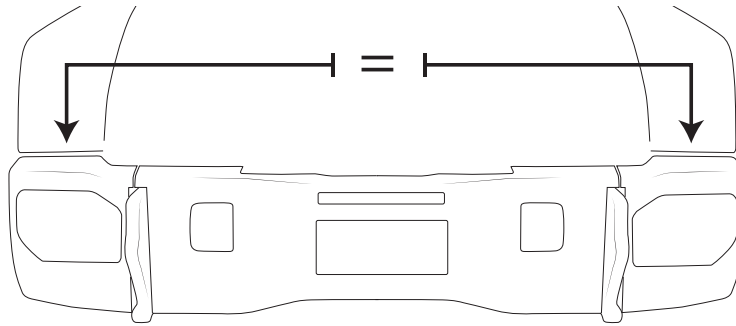

Figure 15
1. Before installing the tow loop bezels, tube, and lighting, the bumper must be adjusted and all fasteners tightened. Be sure spacing between the bumper and the truck body is even. (fig. 15).